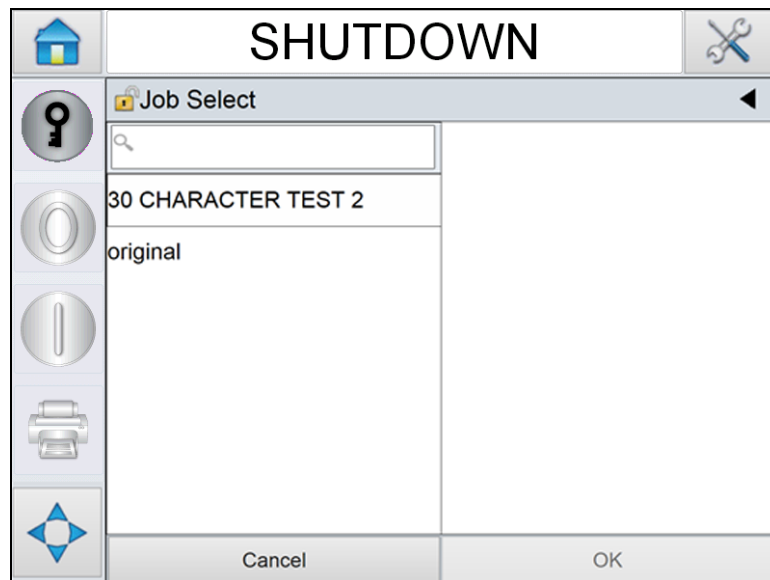

Figure 5-3: Job List
- 4 The list of existing jobs are displayed (see Figure 5-3).